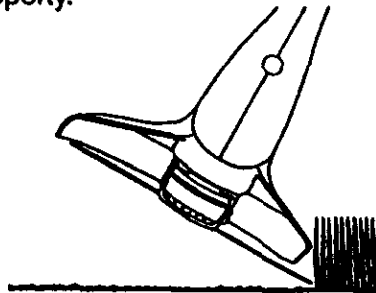

Fig. 12
5. SCALPING (Figure 12). Scalping refers to removal of all vegetation down to the ground. To do this, tilt the stringhead to your right at about a 30 degree angle from the ground. By adjusting the handle you will have better control during this operation. Always keep a distance of 100 feet (30 meters) from other people and animals when scalping. Do not attempt this procedure if there is any chance flying debris could injure operator, other people or cause damage to property.